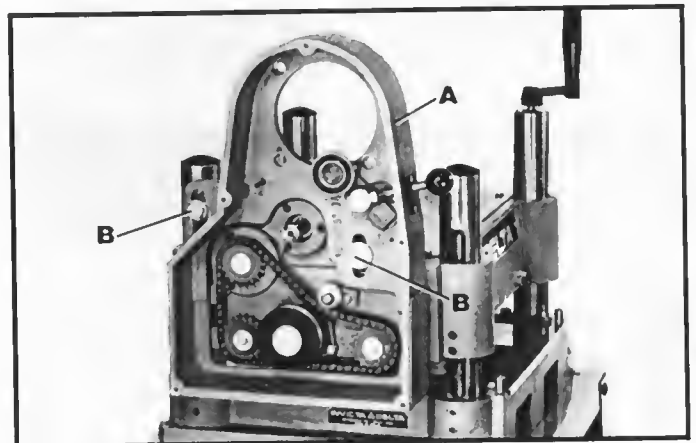

Fig. 6
1. Assemble the belt guard (A) to the side of the machine using the two bolts and washers (B), as shown in Fig. 6.